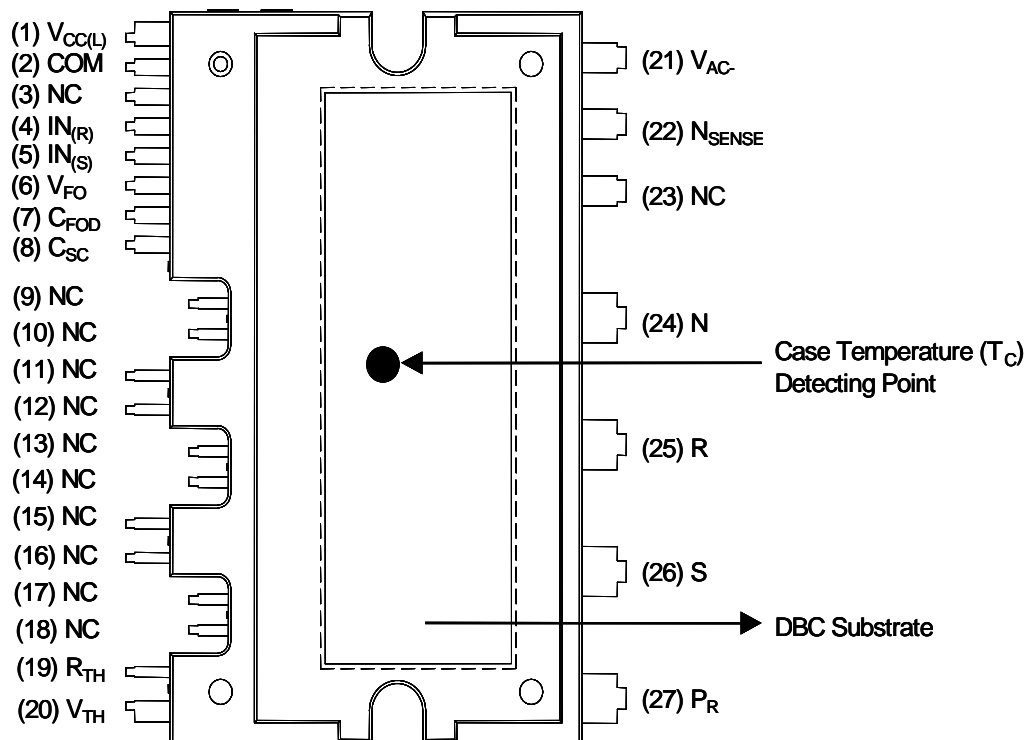

Figure 2. Top View
3. For the measurement point of case temperature(T_C), please refer to Figure 2.